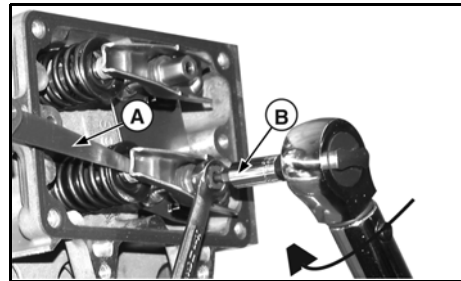

Figure 41
3. Using a feeler gauge (**A**, Figure 41), adjust rocker nut to obtain the clearance as listed in Section 12 - Engine Specifications.